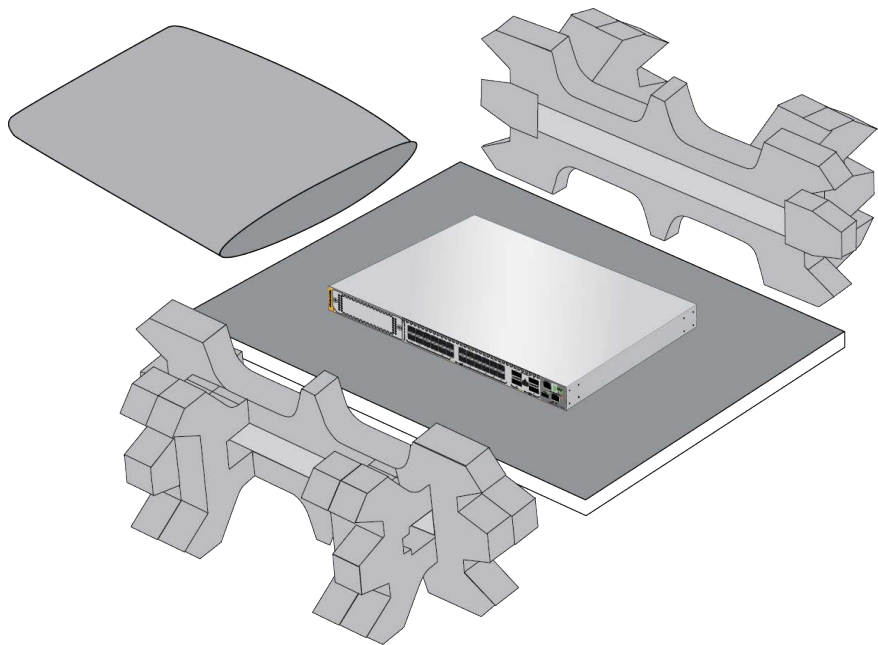

Figure 33. Removing the Switch from the Shipping End-caps and Protective Bag
4. Remove the switch from the shipping end-caps and protective bag. Refer to Figure 33.